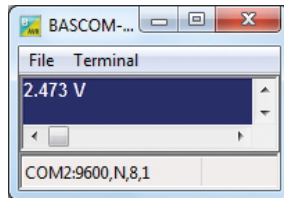

Figure 3. Voltage readout in Bascom Terminal.
A special feature of the Bascom program (**Listing 1**) is its serial output, which is customized specially for the Bascom Terminal. A frequent distraction on the Terminal is new lines of output constantly appearing one after another, caused by every print instruction being ended with Carriage Return (CR, ASCII 13) and Line Feed (LF, ASCII 10). In fact you can suppress these control characters with a semicolon at the end of the print instruction and by sending just a CHR(13) before the instruction. Each new output then appears on the same line, resulting in a static display (**Figure 3**).